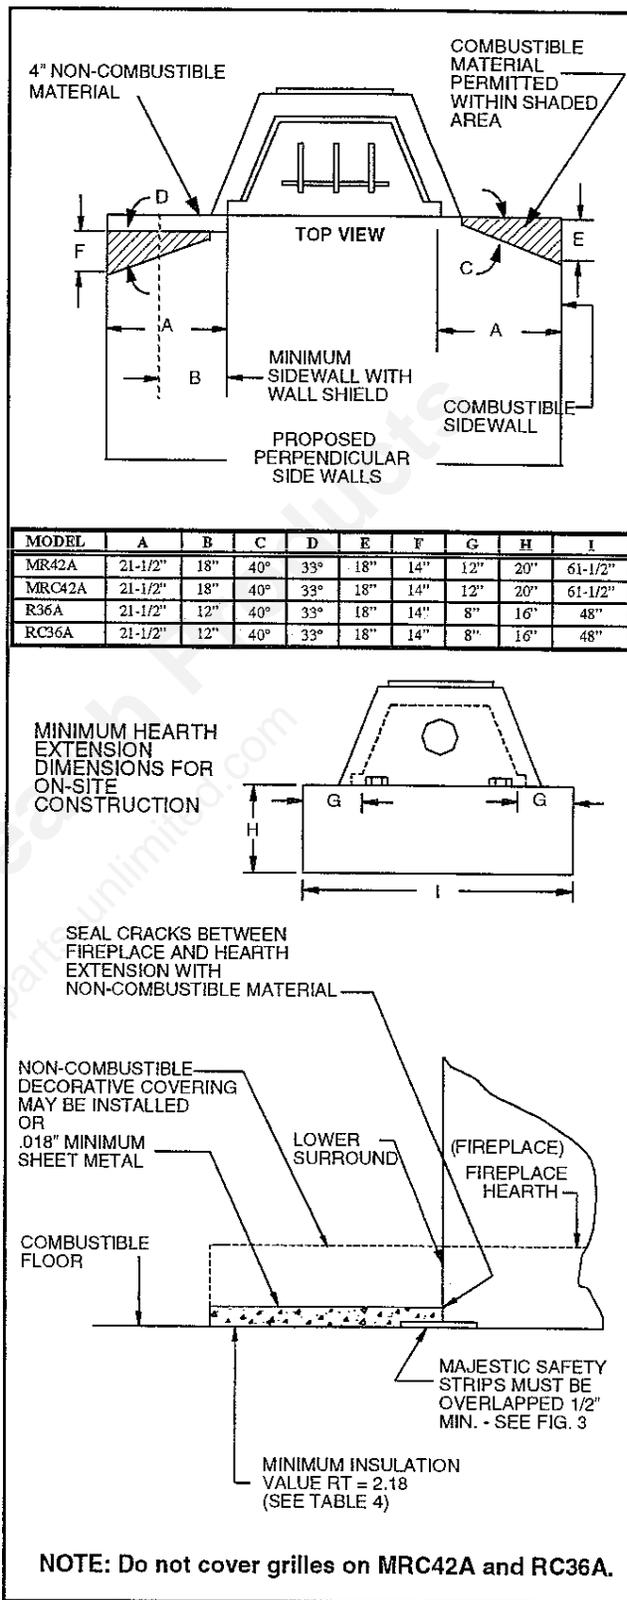

Fig. 23. Protection of adjacent combustible side walls and hearth extension dimensions.
A hearth extension is required to protect combustible floor construction in front of the fireplace. See Fig. 23 for minimum dimensions and mounting detail.
The hearth extension described in Fig. 23 must be a durable non-combustible material with a minimum (total)  $R_T$  value of 2.18 when used with Model SK8, 2-Wall Chimney System and the minimum (total)  $R_T$  value for Model S, 3-Wall Chimney systems is 1.09 for MR42/MRC42A units. (See Table 4 for examples.) The overall height (above combustible floor), depth and width must be as indicated, with it centered to the fireplace opening. (See Fig. 23.)
The top of the insulation must be covered with a non-combustible decorative covering or a piece of .018" minimum sheet metal, to protect the hearth extension material. (See Fig. 23.)
Secure the hearth extension to the floor to prevent shifting, using trim molding or other similar means at the three (3) outer edges. Seal the crack between the fireplace hearth and the hearth extension with a non-combustible material. (See Figs. 23, 24 and 25.)
**WARNING: HEARTH EXTENSION MUST BE INSTALLED IN ACCORDANCE WITH FIGS. 23, 24 AND 25.**
**NOTE:** These units are not to be installed in a recessed combustible floor material so that the extended hearth is flush with the opening. A flush hearth application is acceptable if installed according to Fig. 23.